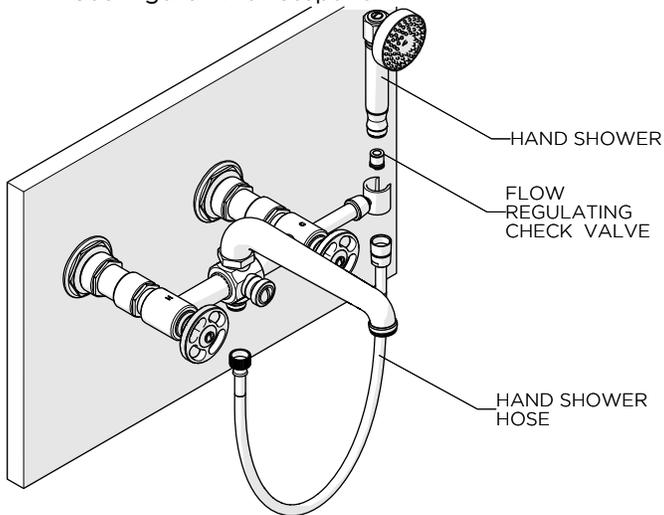

Figure 4
- See Figure 4. for Steps 10-11.